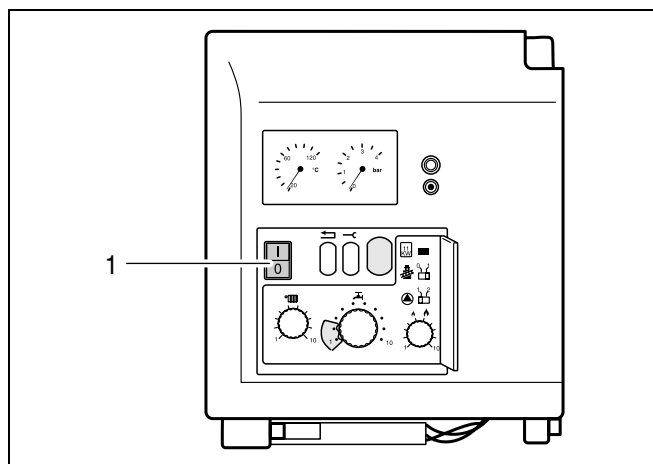

fig. 19 UBA
Connection must be made in a way that allows complete isolation of the electrical supply such as a double pole switch having 3 mm (1/8") contact separation in both poles, or by a three pin connector, serving only the boiler and system controls. This boiler is equipped with a double pole switch see fig. 19, item 1. The means of isolation must be accessible to the user after installation.